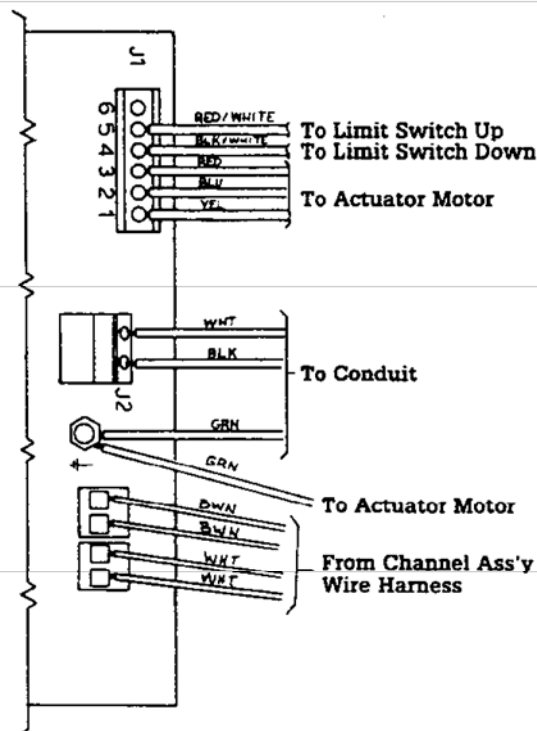

Figure 3
5. Disconnect all wires from the motor control board to the actuator, noting the wiring configuration. (See Figure 3.)
12. Reconnect all wires to the motor control board. See Figure 3.